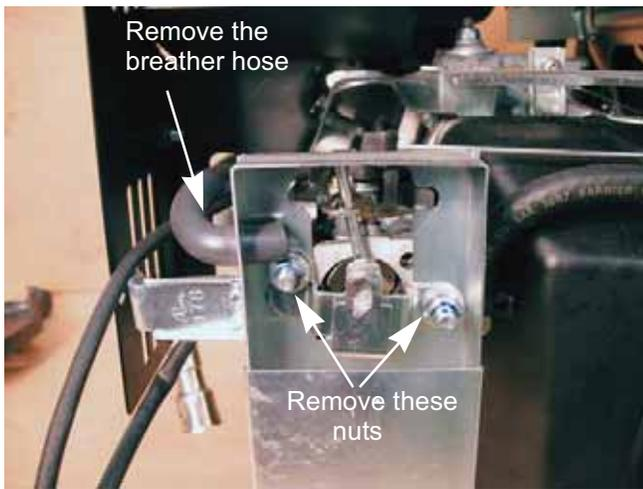

Figure 3.2
4. Slide the breather hose out of the heat box. See Figure 3.2.
5. Remove the two carburetor nuts using a 10 mm wrench. See Figure 3.2.